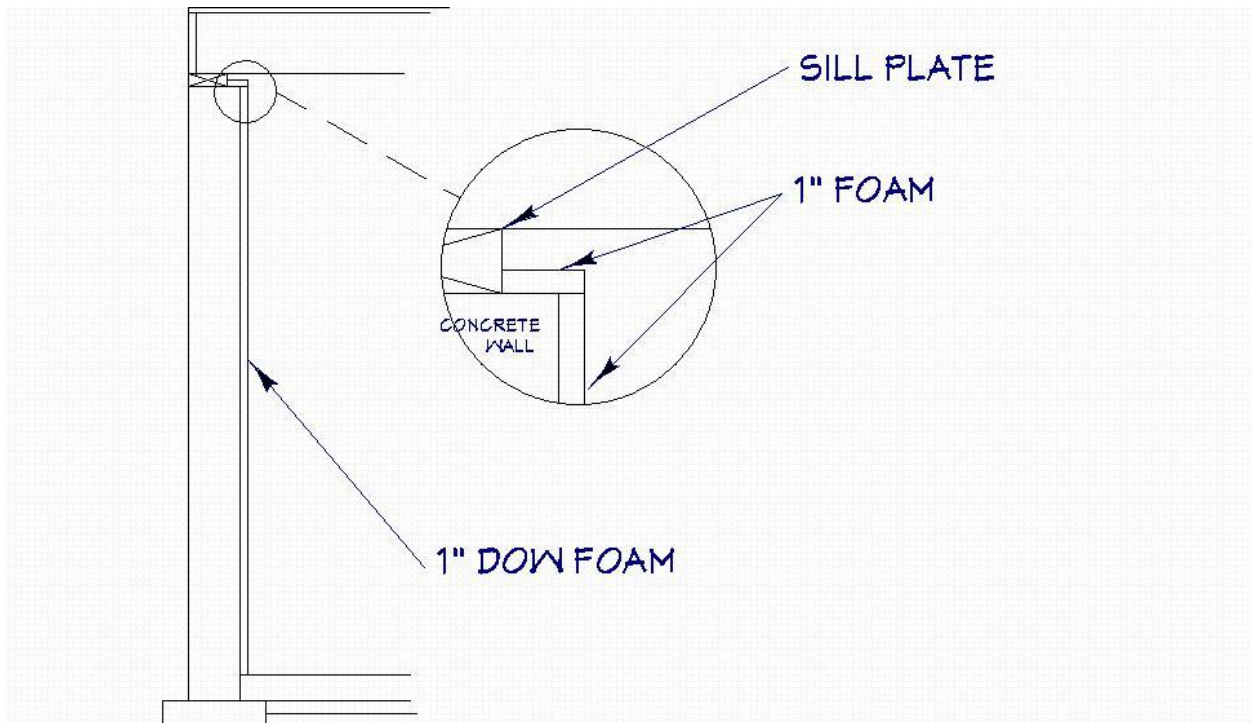

Figure 6-4. Basement Wall Insulation.
2. Before building any walls, cut 1" foamboard to cover the foundation walls behind any 2x4 walls. Apply foamboard from the floor all the way up the wall and also on the top of the foundation wall where the sill plate does not cover (see Figure 6-4).